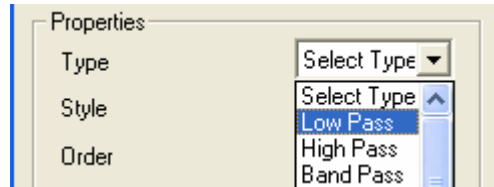

Figure 11:
28. In the **Properties Frame**, located beneath the Filter List, is a dropdown menu titled **Type**. Open the menu and select **Low Pass** from the list as shown below in Figure 11.